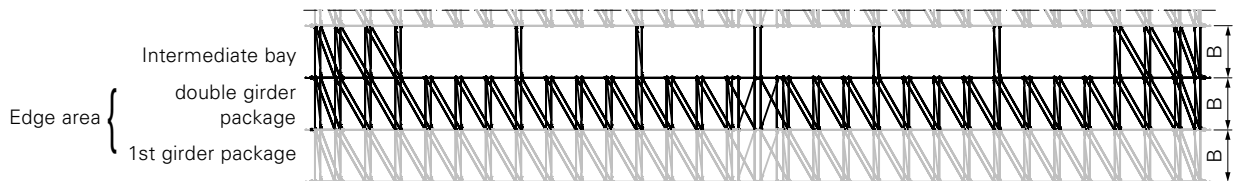

Fig. B1.06b
- double girder package (Fig. B1.06b)